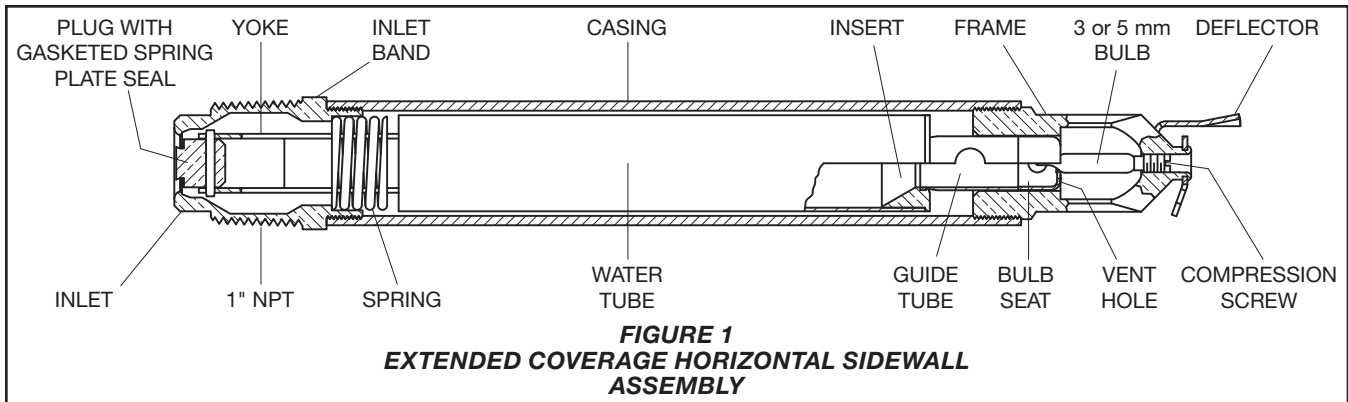

FIGURE 1
When TYCO Series DS-1 Dry-Type Sprinklers are in service, water is prevented from entering the assembly by the Plug and Gasketed Spring Plate Seal (see Figure 1) in the Inlet of the sprinkler.
- a pipe wrench on the Inlet Band or the Casing, see Figure 1
A Vent Hole is provided in the Bulb Seat (Figure 1) to indicate if the Dry Sprinkler is remaining dry. Evidence of leakage from the Vent Hole is an indication that there may be seepage past the Inlet seal and that the sprinkler needs to be removed for determining the cause of leakage (for example, an improper installation or an ice plug). The fire protection system control valve must be closed and the system drained before removing the sprinkler.